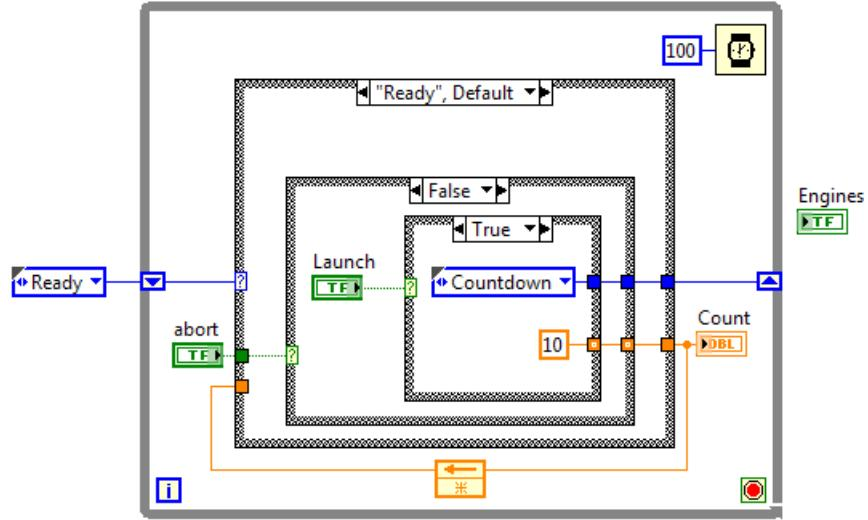

FIGURE E.9 Wiring the Ready state to handle the Launch button being pressed.
37. Switch the inner case to the False value (Abort button not pressed), and wire it as shown in Fig. E.9. The constant loads the Count variable with the number of seconds we will count down for. Note that some of the output tunnels that the orange wire passes through have a little white dot in the center. These have been set to **Use Default If Unwired** (via a right-click, of course). *NEVER* do that with the tunnels connected to the state control shift register! You always want to be controlling what state the program goes to next.